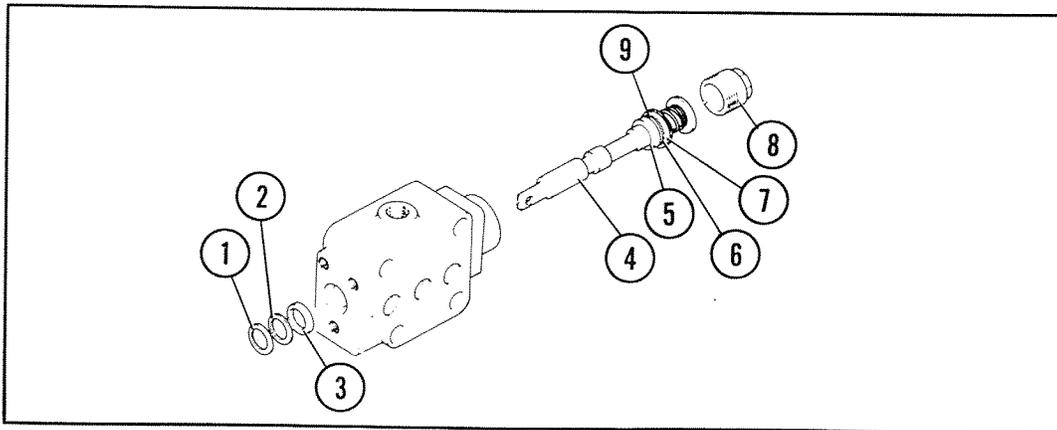

Figure 10
5. Pull out the spool (4) in the direction that the plug was removed, Figure 10.
6. Remove the washer (1), back-up ring (2), and seal ring (3), Figure 10.